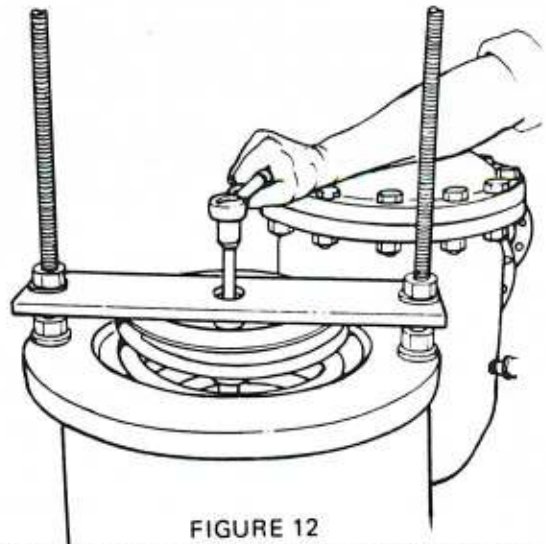

FIGURE 12
- e. Remove spring retainer nut (Fig. 12).